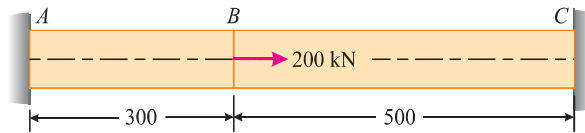

Fig. 4.7
1. An alloy bar 800 mm long and 200 mm^2 in cross-section is held between two rigid plates and is subjected to an axial load of 200 kN as shown in Fig. 4.7.